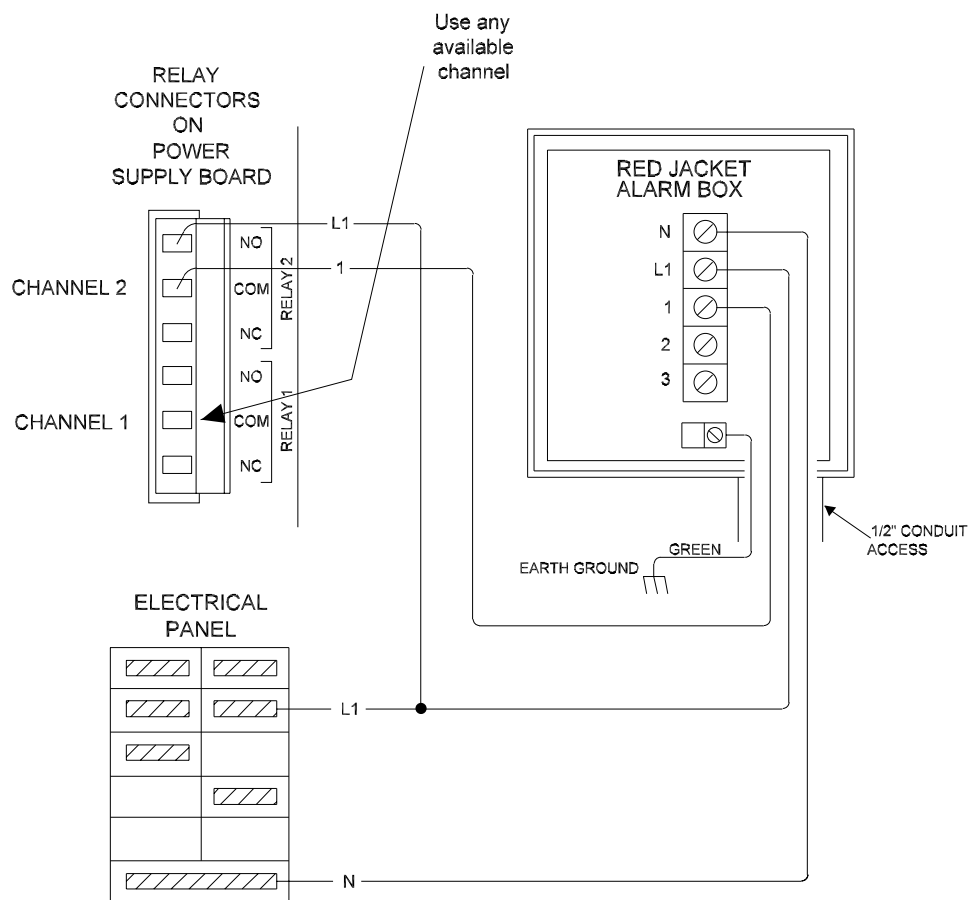

Figure 5.4 Wiring a built in relay to the external alarm box
- Step 3:** Run two of these wires **L1** and **1** (in conduit) into the Prolink chassis. See *figure 5.4*.
- Step 4:** Connect terminal **1** on the External Alarm Box to the common **COM** terminal on the selected relay channel **1 or 2** connector located on the Prolink power supply board. Refer to *figure 5.4*.